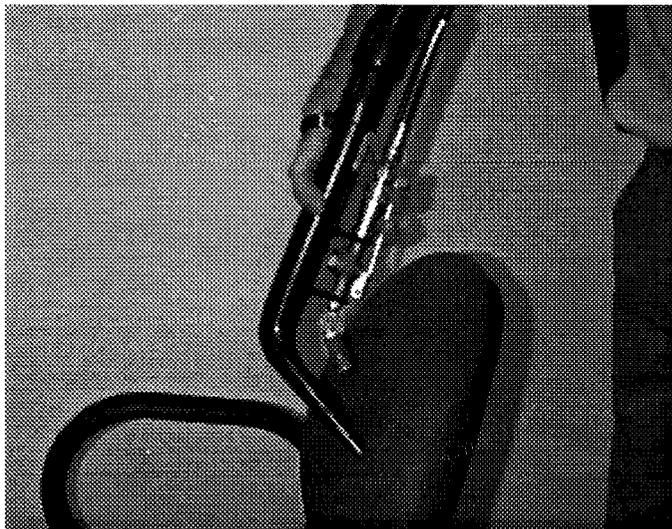

Fig. 14
5. Squeeze trigger on accessory tool and pull tool backwards. (Figure 14)